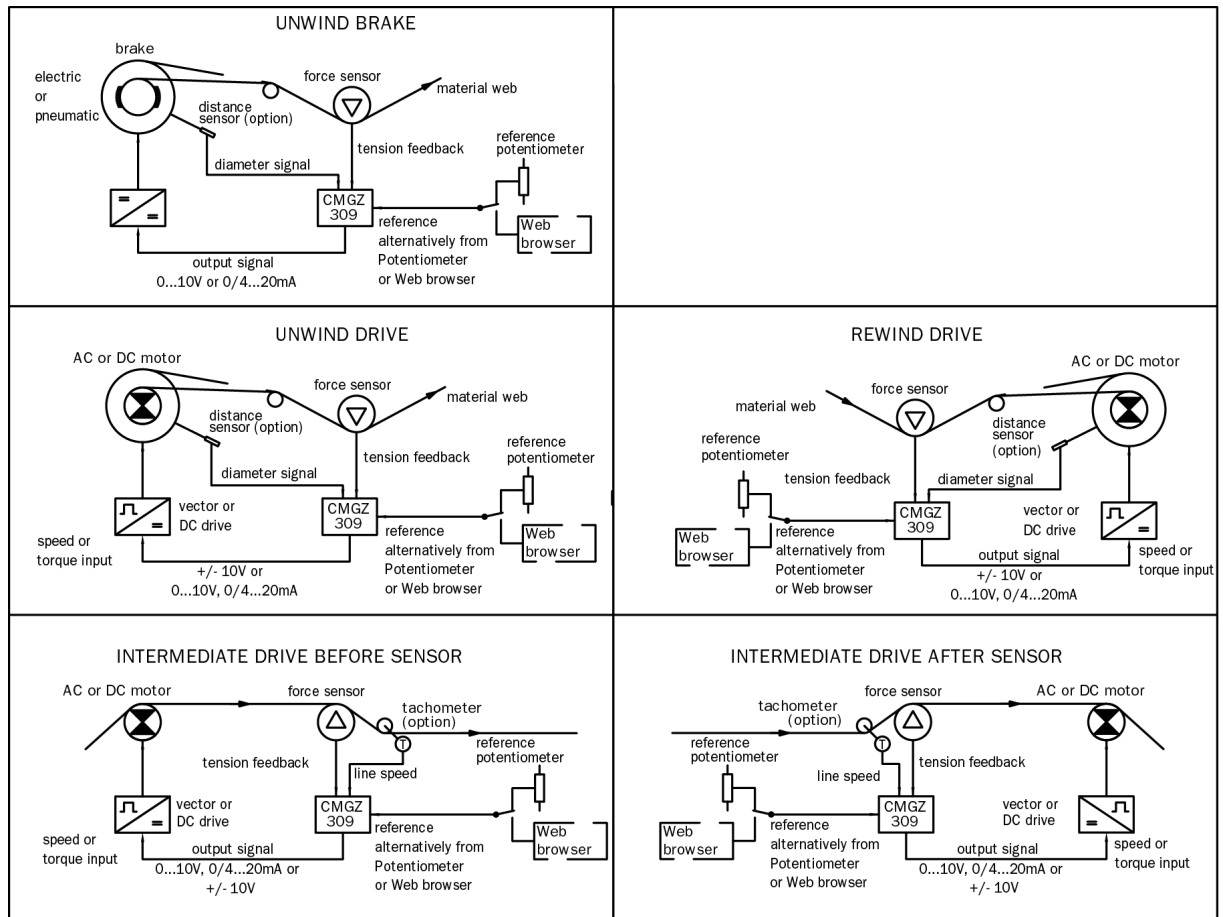

Fig. 2: Schematics of CMGZ309 applications
The CMGZ309 is a versatile tension controller. Whether unwind brake, unwind drive, intermediate drive, or rewinding drive the controller can be configured to handle effectively the controlling tasks. **Fig. 2:** shows the most common controlling applications:
- Application (unwind brake or drive, rewinding drive etc. (see **Fig.2**))